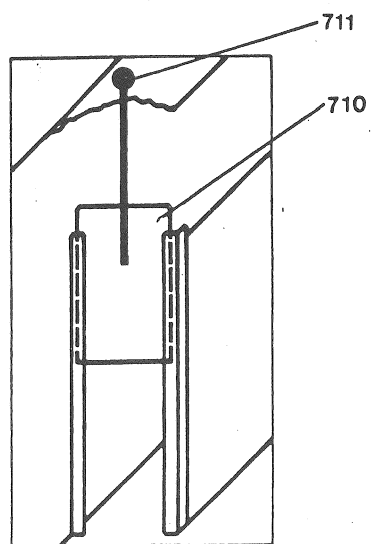

Fig 5
Sliding door for drainage (710) (fig. 5)